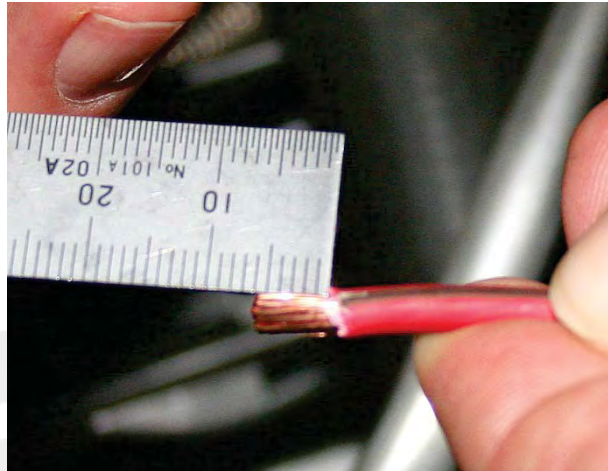

Figure 10
12. Strip approximately 5 mm of insulation from the vehicle-side wire (Figure 10).